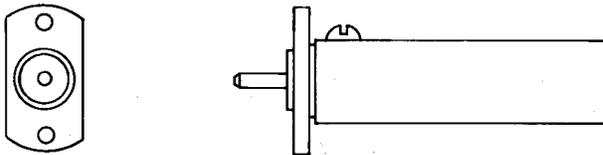

Fig. 11—612A Jack
2.11 612A: This coaxial-type jack (Fig. 11) has center contacts which extend from the rear of the jack for soldered wire connections. The jack is designed to mate with the 510A plugs and is used with the L5 Hybrid Transformer.